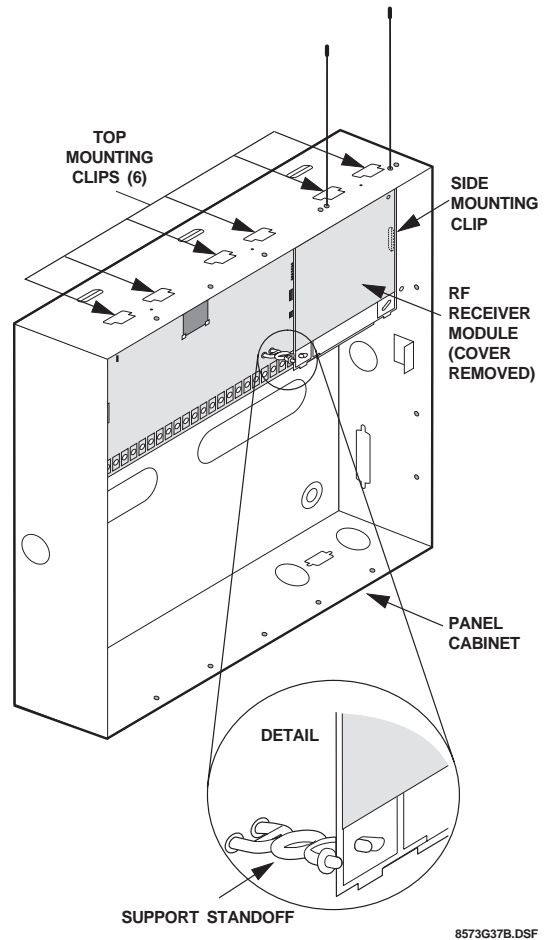

Figure 23. Mounting SuperBus Modules Inside the Cabinet (RF Receiver Shown)
- The cabinet has built-in mounting clips on the top and sides that module backplates slide onto for mounting (see Figure 23).
- One SuperBus RF Receiver can be installed inside the cabinet, but it must be mounted on the right-hand side to accommodate the antennas (see Figure 23). Additional receivers must be installed outside the cabinet.